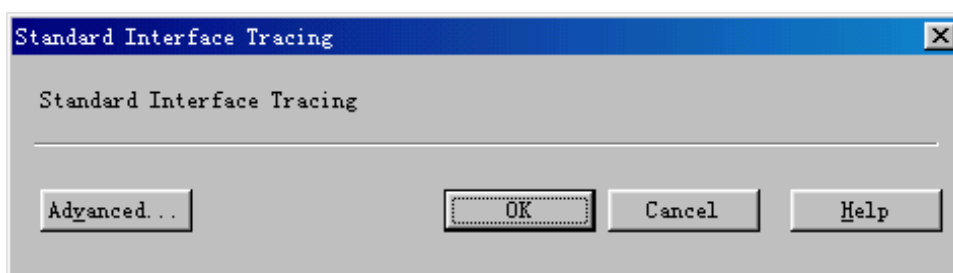

Figure 8-1 Standard Interface Tracing dialog box
The **Standard Interface Tracing** dialog box opens up as shown in Figure 8-1.
Figure 8-1 shows the **Standard Interface Tracing** dialog box.
- 1) Open the **Standard Interface Tracing** dialog box as shown in Figure 8-1.